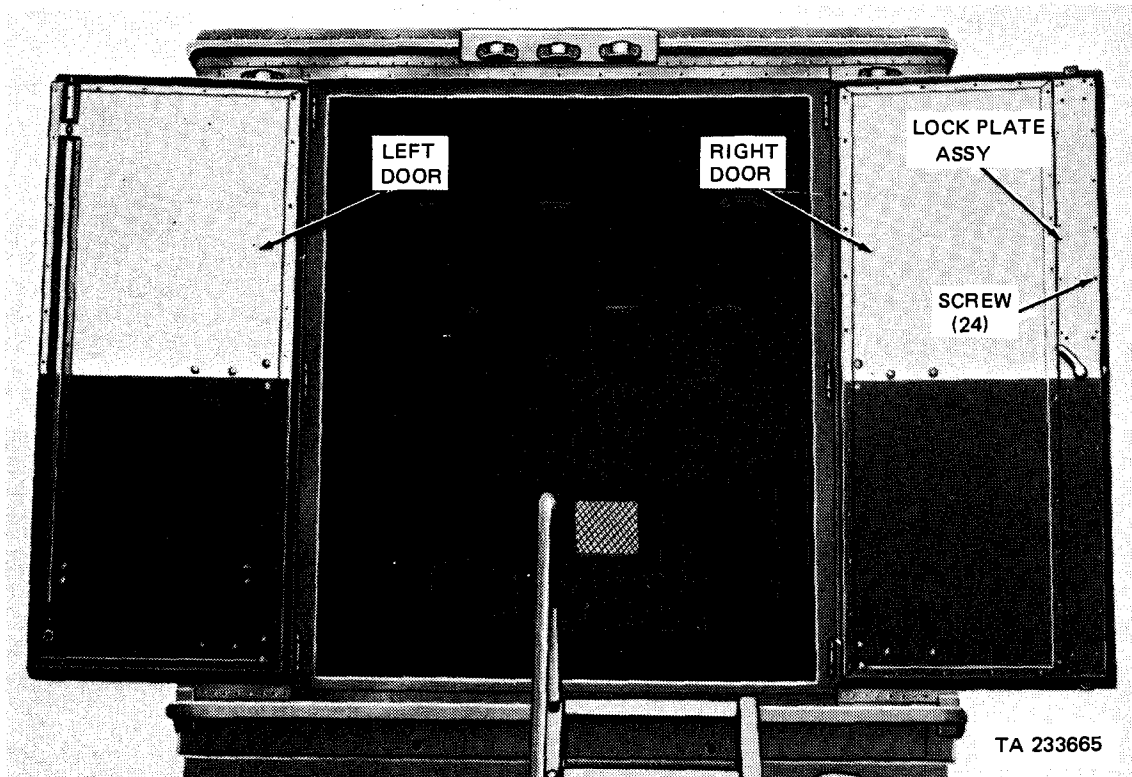

Figure 5-8. Rear doors, open
- (b) Remove 24 screws from around edge of lock plate assembly (fig. 5-8) on inside of right hand door.
- (d) position new or repaired lock plate assembly on inside of right hand door (fig. 5-8) and secure with 24 No. 10 X 3/4 screws.